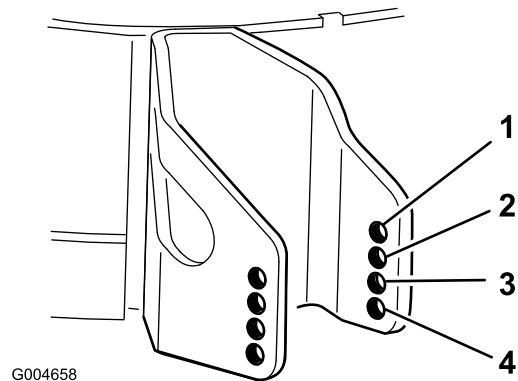

Figure 25
4. Select a hole so the anti-scalp roller is positioned to the nearest corresponding height-of-cut desired (Figure 25).